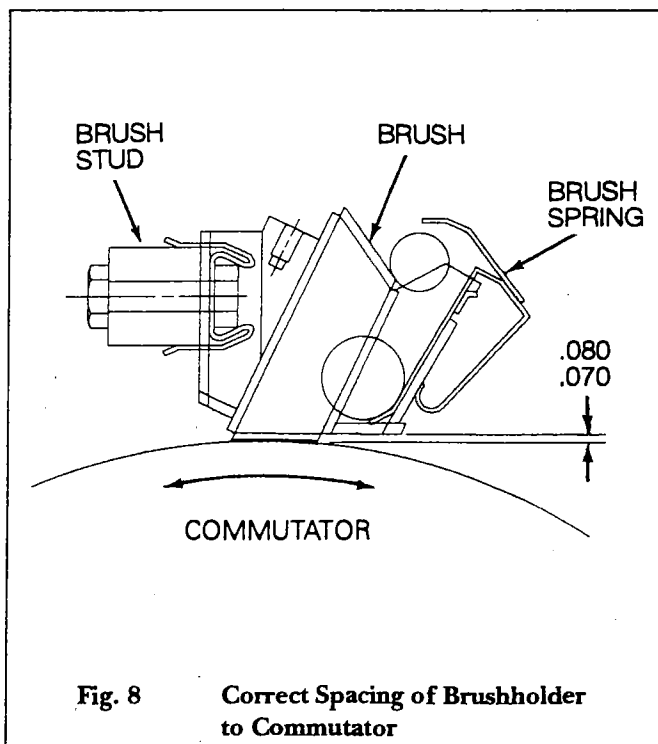

Fig. 8 Correct Spacing of Brushholder to Commutator
2. CD180AT - Release spring to original position against brush. CD210AT-CD500AT - Push spring into position until lock tab (Refer to ②) engages slot and locks.
**NOTE:** If the brushholders have been disassembled, it may be necessary to readjust the height of the holder from the commutator surface. Loosen the brush stud to holder screw and adjust the holder until a gap of .070" to .080" is obtained. Retighten the screw and recheck the gap. (Refer to Fig. 8.)